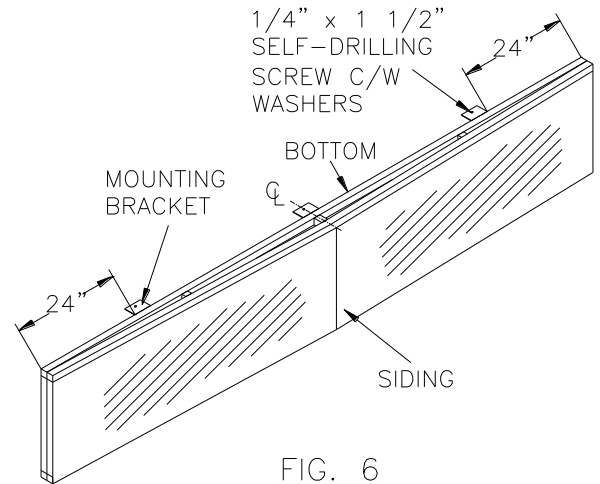

FIG. 6
- d. **Position Mounting Brackets** on Head Frame (Figure 6).
- Use **three (3) 3-hole** Mounting Brackets.